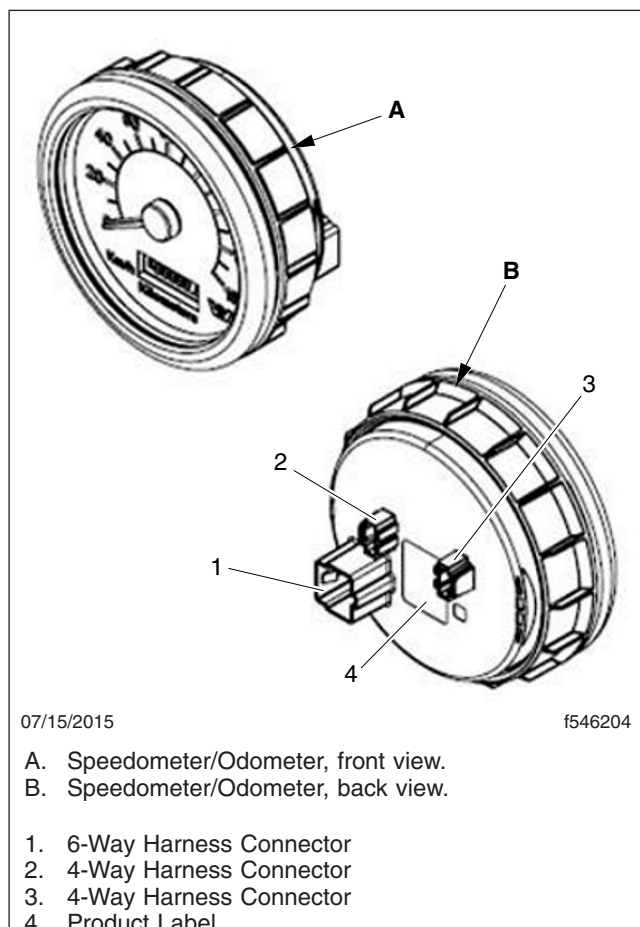

Fig. 4, Rear View of Gauges
10. Unplug the connectors from the back of the speedometer. See Fig. 4.